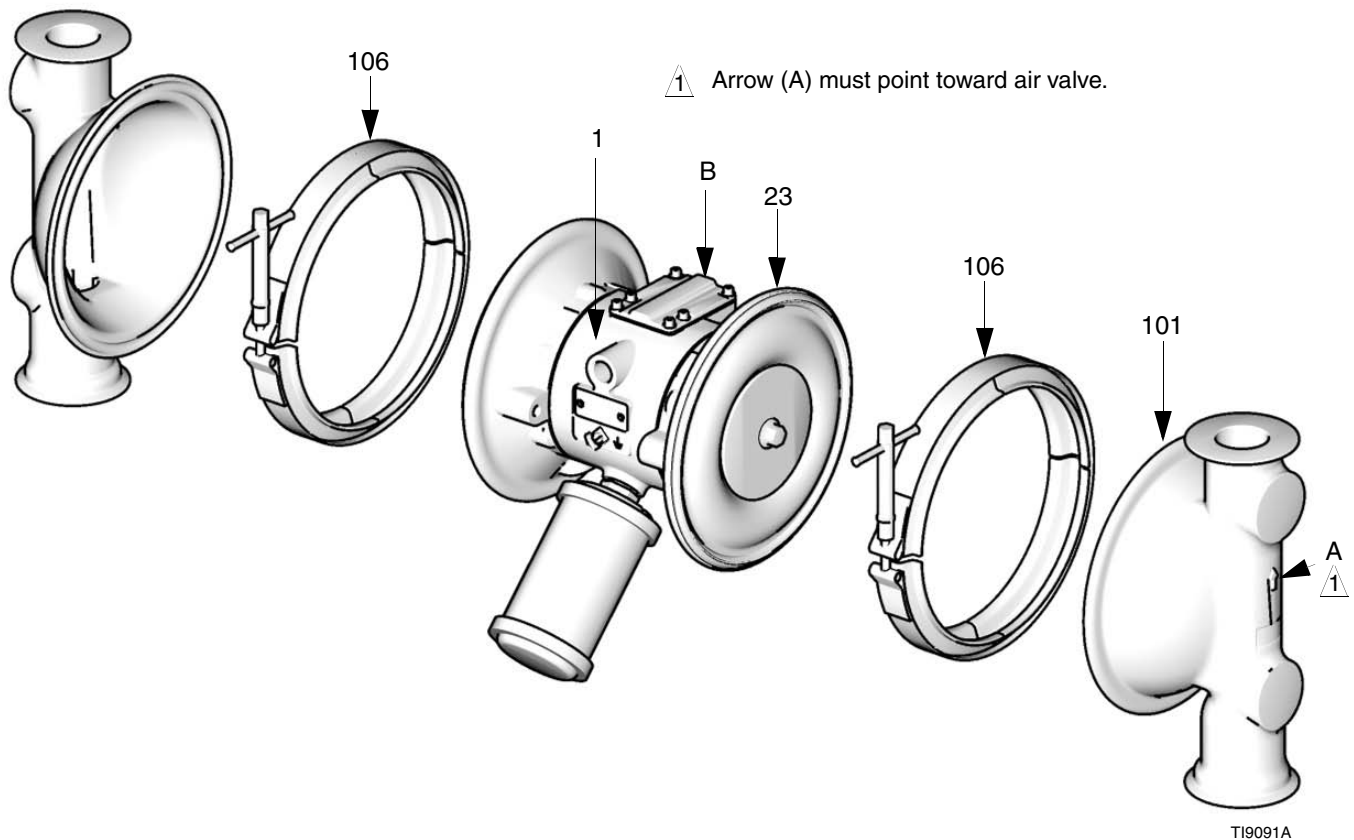

FIG. 10
3. Remove the clamps (106) holding the fluid covers (101) to the air covers (23). Pull the fluid covers (101) off the pump. See FIG. 10.
- d. On PTFE models only, install the backer (401*) on the bolt. Make certain the side marked AIR SIDE faces the center housing (1).
- e. Install the air side diaphragm plate (104) so the rounded side faces the diaphragm (401). This plate is stamped with its part number.
- f. Apply medium-strength (blue) Loctite® or equivalent to the bolt (107) threads. Screw the bolt into the shaft (24) hand tight.
3. Grease the length and ends of the diaphragm shaft (24), and slide it through the housing (1).
5. Hold one shaft bolt (107) with a wrench and torque the other bolt to 60-70 ft-lb (81-95 N•m) at 100 rpm maximum.
6. Align the fluid covers (101) and the center housing (1) so the arrows (A) on the covers face the same direction as the air valve (B). Secure covers with the clamps. See FIG. 10.